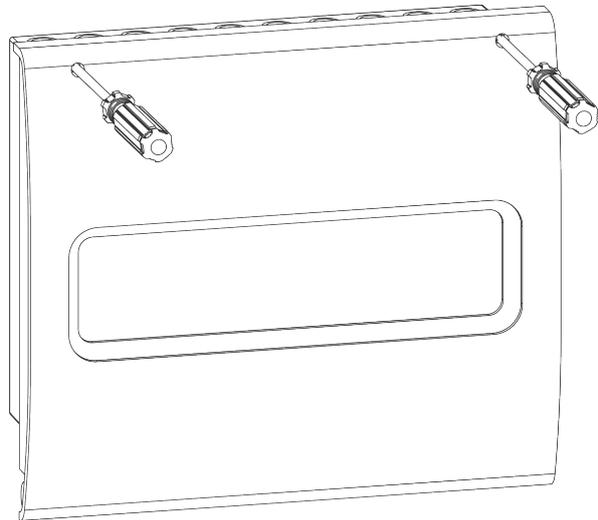

Figure 12: Panel Front Cover
- To remove the front cover of the panel, unscrew the two retraining screws located at the top corners of the panel (Figure 12).